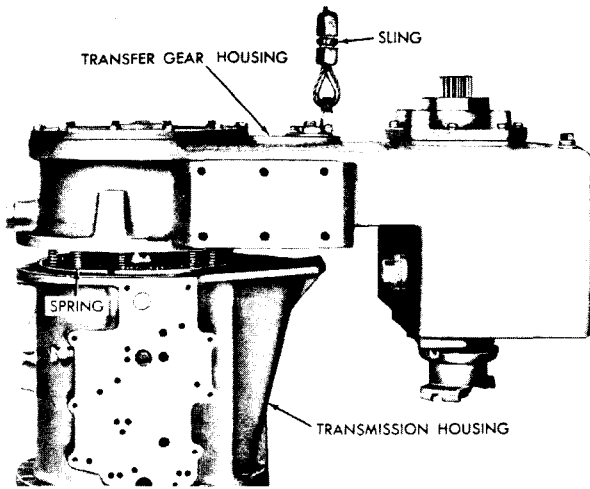

Fig. VII-22. Installing transfer gear housing onto transmission housing
(1) Hoist the assembled transfer case assembly, supported by a bolt installed in the idler spindle lock bolt hole (fig. VII-22).
(2) Position the transfer housing assembly over the transmission housing carefully and lower it. Keep the transfer housing horizontal (fig. VII-22).
(3) Install 18 bolts and lock washers which fasten the two housings together. Pressing downward on the transfer housing to compress the clutch piston return springs will assist in starting the first few bolts. Tighten all of the bolts evenly.
(4) Position the transmission assembly in its normal operating position and remove